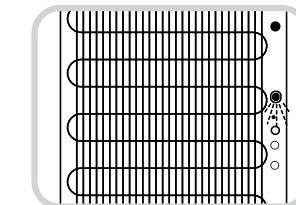

Fig.4
10. Turn counterclockwise to open the drain cap and drain the water from the tanks. Do not tilt the unit to drain the water. (Fig. 4)